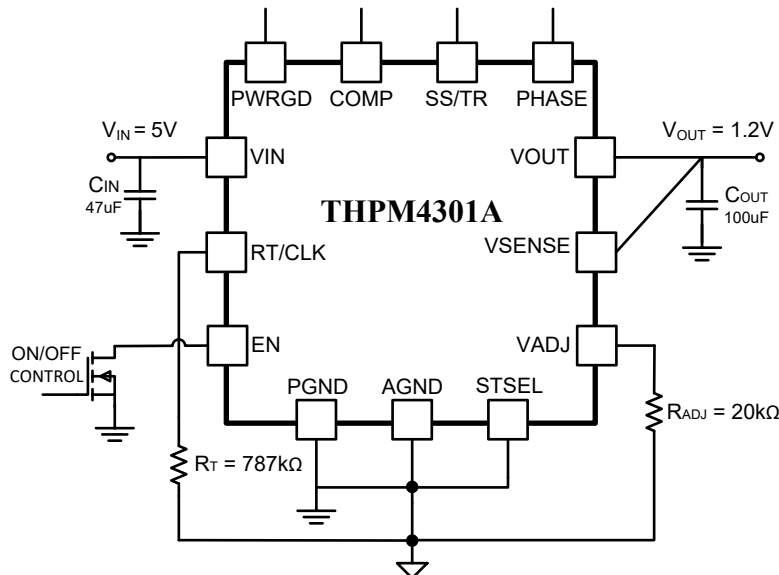

Fig. 22 Typical Schematic $V_{IN} = 2.95V$ to $6.0V$, $V_{OUT} = 1.2V$, $F_s = 500kHz$
Fig. 22 shows a typical schematic for a 1.2V output application using THPM4301A with switching frequency of 500 kHz. The adjustment resistor, R_{ADJ} , is selected as 20k Ω calculated based on Equation (1). R_T/CLK is connected to ground with a 787k Ω resistor to select the recommended switching frequency. $STSEL$ pin is connected to AGND to select the default startup time. The ON/OFF CONTROL signal is used to turn on and off the power module.